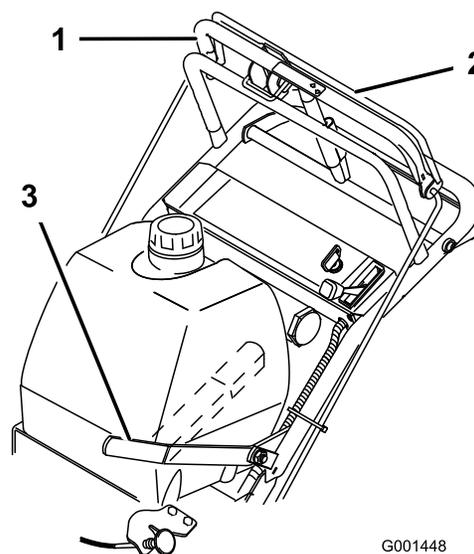

Figure 9
1. To engage the blades, squeeze blade control bail against the upper control bar (Figure 9).
To disengage the blades, pull the blade control lever rearward all the way (Figure 9). The engine will kill when the blade control bail is released with the blade control lever engaged.